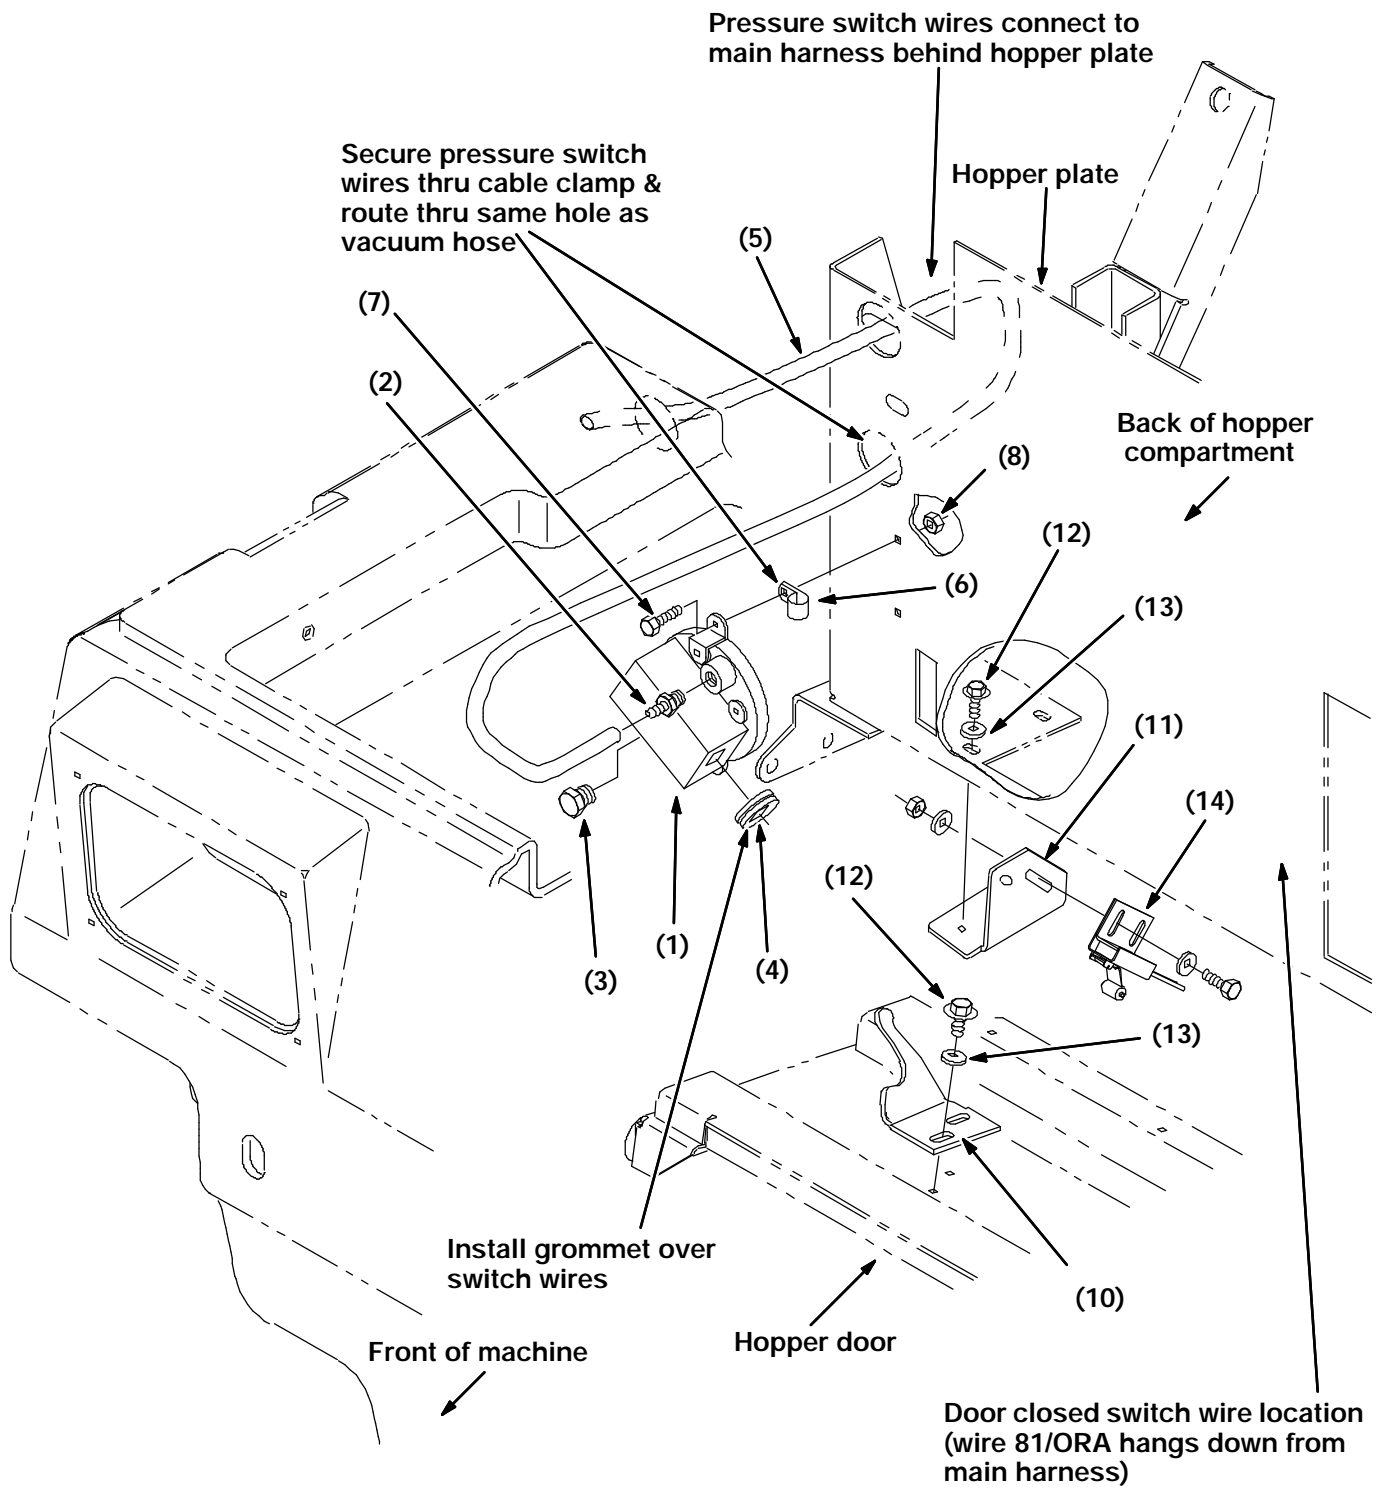

FIG. 3 - Installation of Hopper Pressure Switch & Door Closed Switch
(Refer to FIG. 3)
1. Install the hopper pressure switch (1) into the pre-drilled holes in the hopper plate using the hardware (7) and (8) provided. *(Refer to FIG. 3)*
NOTE: Install the cable clamp with the top pressure switch mounting screw. (Refer to FIG. 3)
2. Install the brass fitting (2) and breather fitting (3) onto the hopper pressure switch. *(Refer to FIG. 3)*
3. Install the vacuum hose (5) onto the brass fitting and route it through the hopper assembly as shown in **FIG 3**.
4. Install the grommet (4) over the switch wires, then secure the grommet into the pressure switch. *(Refer to FIG. 3)*
5. Route the pressure switch wires through the cable clamp and then through the vacuum hose hole in the rear hopper plate. *(Refer to FIG. 3)*
6. Connect the hopper pressure switch wires to 83/GRN on the main wire harness, which runs behind the rear hopper plate. *(Refer to FIG. 3)*
7. Install the hopper plate bracket (11) onto the hopper plate with the hardware (12) and (13) provided. *(Refer to FIG. 3)*
8. Install the hopper door bracket (10) into the pre-drilled holes in the hopper door with the hardware (12) and (13) provided. *(Refer to FIG. 3)*
9. Install the hopper door closed switch (14) into the hopper plate bracket installed in *Step 7* with the hardware (15) and (16) provided. *(Refer to FIG. 3)*
10. Connect the hooper door closed switch wires to wire 81/ORR hanging down from the main harness. *(Refer to FIG. 3)*